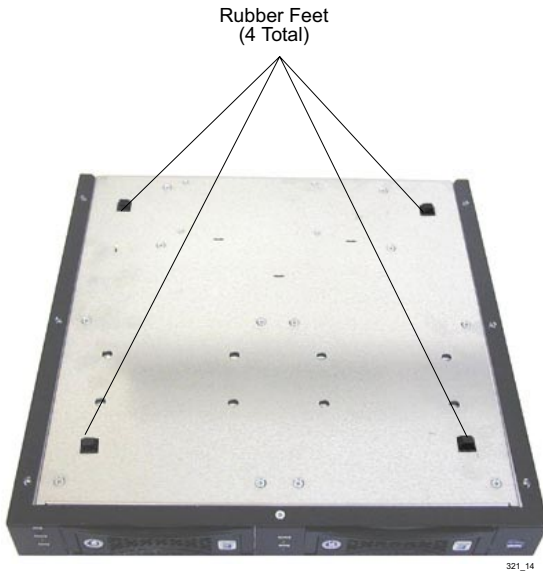

Figure 6: Desktop Conversion
3. Peel paper backing off rubber feet (4 total) and press into place (location indicated by "L" marks) as shown in Figure 6.